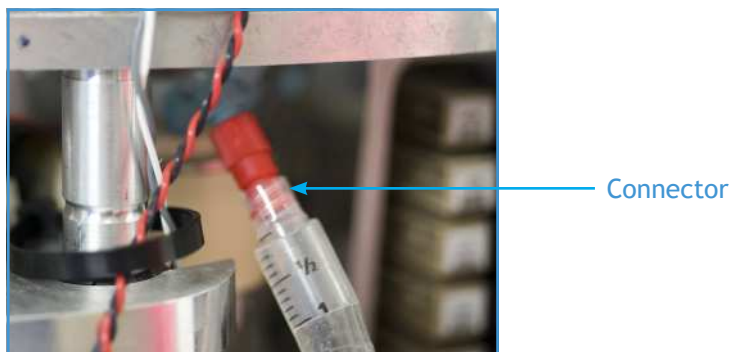

Figure 1-11: Connection in Air Clean line
- b. Follow the line from the port to the in-line connector (see Figure 1-11). The connector is located between the PSV and the Clean Air container.